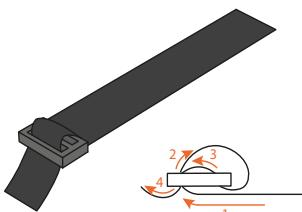

Figure 13 - Assembleren band en gesp.
- 14.** Take the remaining buckles and attach them to the straps as shown in figure 13.